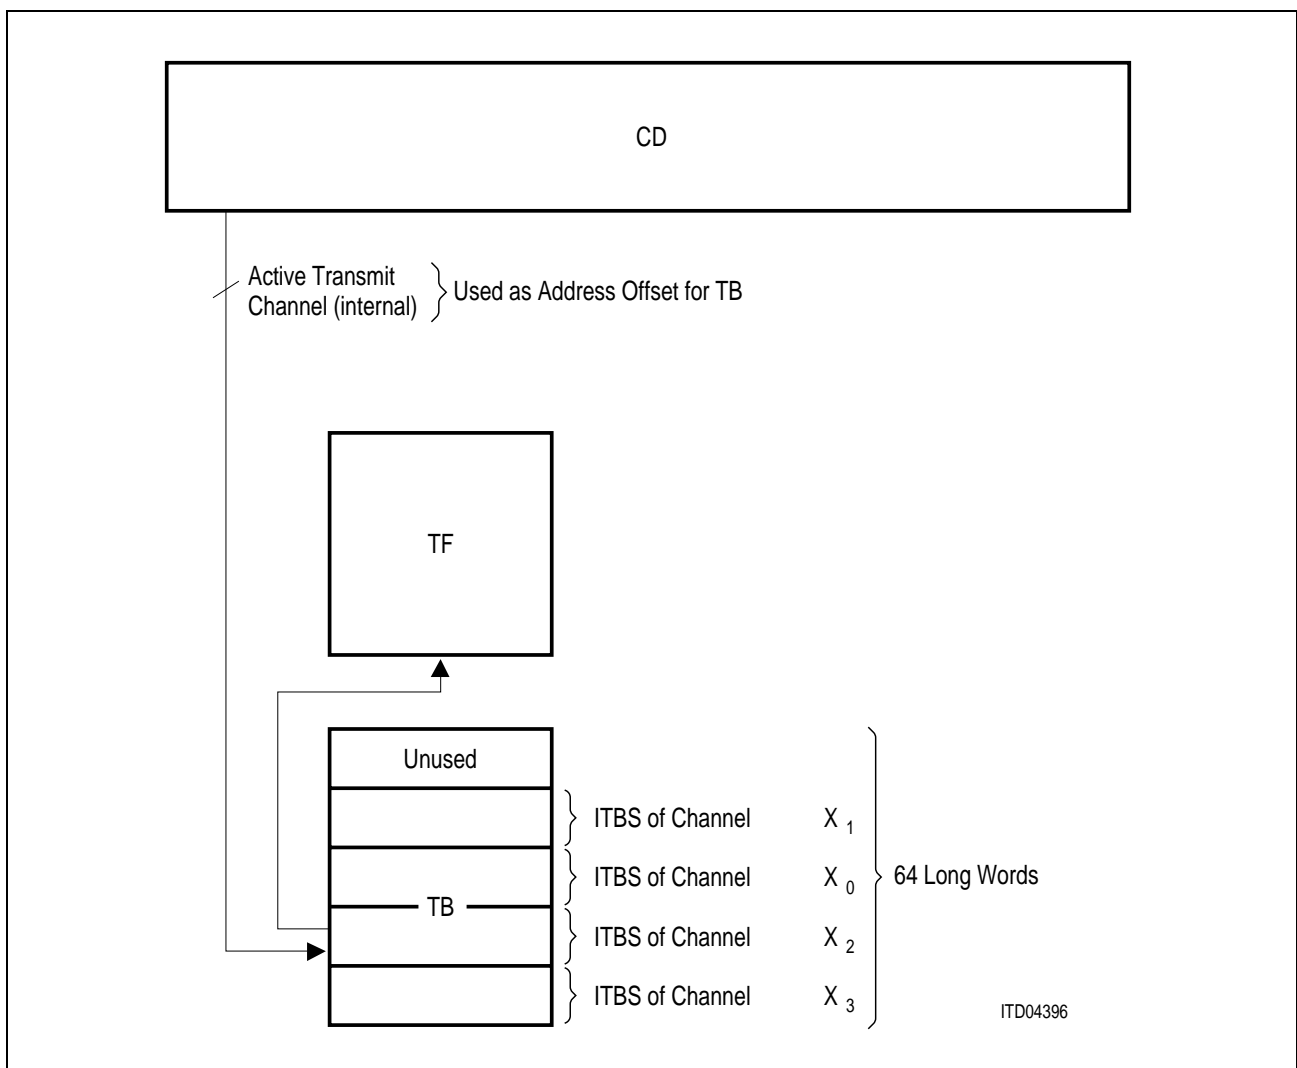

Figure 16
The transmit buffer (TB) has a size of 64 DWORDs (= 256 bytes). In this buffer, data of 8 PCM frames can be stored. In this case, the time between accesses to the shared memory and data supply to the Transmit Formatter is max. 1 ms. In order to meet these requirements, a variable and programmable part of the buffer (ITBS) must be allocated to each data channel (see **Figure 16**).